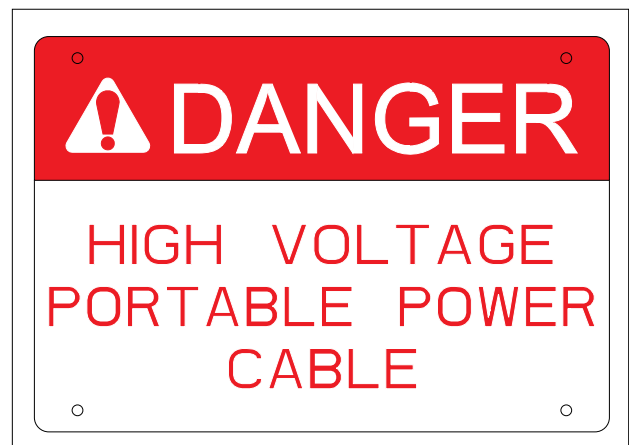

Figure 65-1 Danger Sign
1. Ensure that the danger signs are in place and visible at each end of the travel lane. See Figure 65-1.